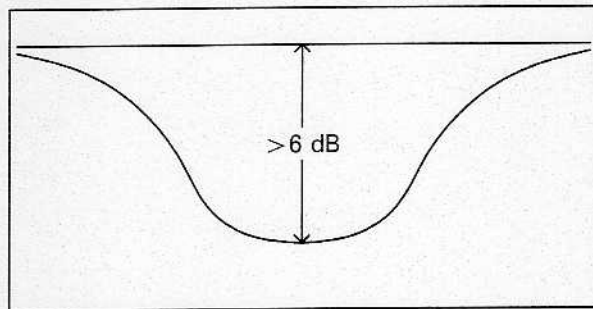

Fig. 15
- c) Set the input match by adjusting the upper of the two rings on the input cavity to produce a response as shown in Fig. 15. The required input cavity bandwidth is determined by the nature of the correction system used, and the matching adjustment should be set to take this into account.